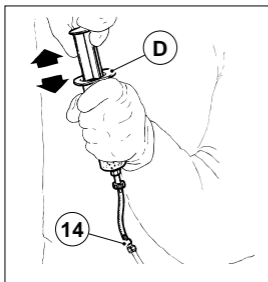

Fig. 11
- replace the needle insert (14) on the end of the tube and replace the biconical bushing (15);
- place the bleeder tube on the syringe (D, fig. 11) and place it on the needle insert (14) on the tube;